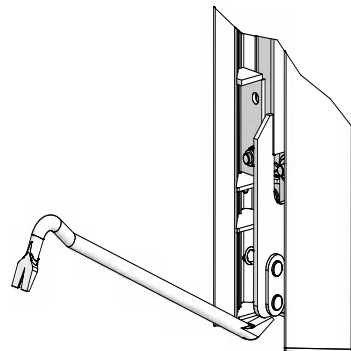
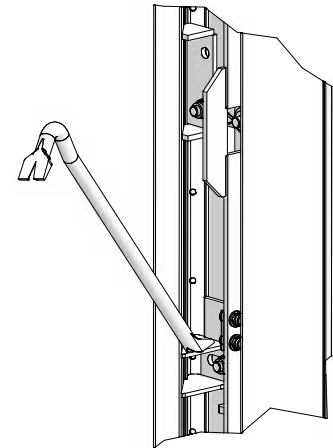

Fig. 32.3 A
Fig. 32.4 B
4. Activate the stripping corner by pushing the bell-crank lever upwards with a crowbar at position A (Fig. 32.3 A) or at position B (Fig. 32.4 B). This breaks the bond between formwork facing and concrete without much effort.